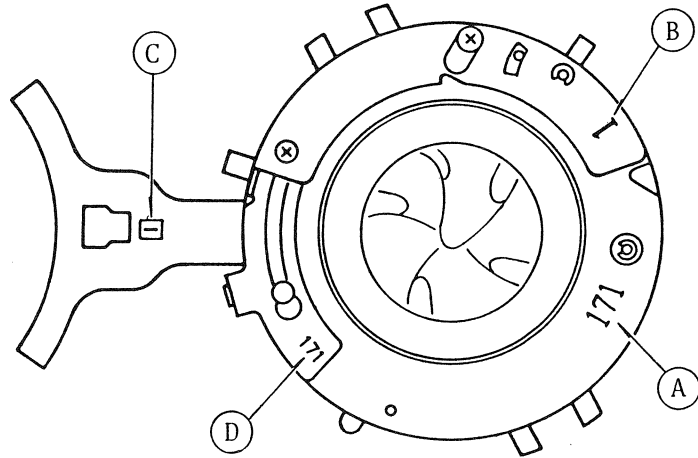

Fig. 17
The figure of the (A) as shown in Fig. 17 indicates the shutter type.